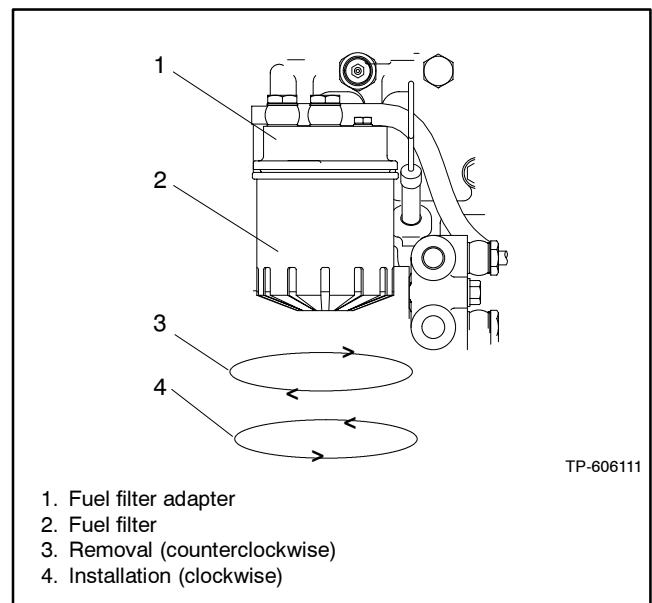
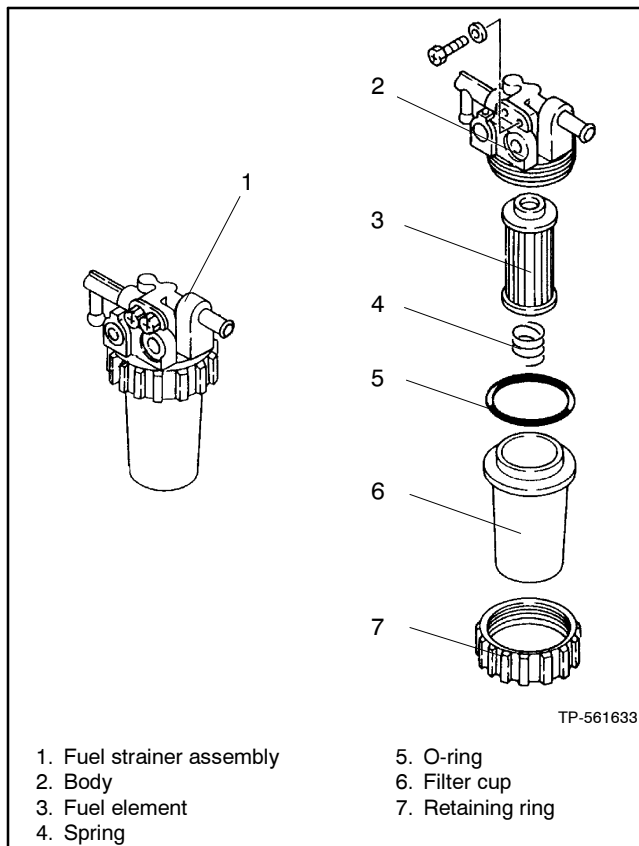

Figure 4-2 Spin-On Fuel Oil Filter
Figure 4-3 Fuel Oil Filter Element
The quality and condition of the fuel largely determine the filter's useful life. Replace the fuel filter element according to the service schedule. Section 1.2 shows the location of the fuel filter. There are two types of fuel filtering systems, the spin-on fuel filter and the fuel filter element. Use the applicable procedure below to replace the fuel filter. See Figure 4-2 or Figure 4-3.
4. Remove the fuel filter. See Figure 4-2.
5. Replace the fuel filter element and install as shown in Figure 4-3.